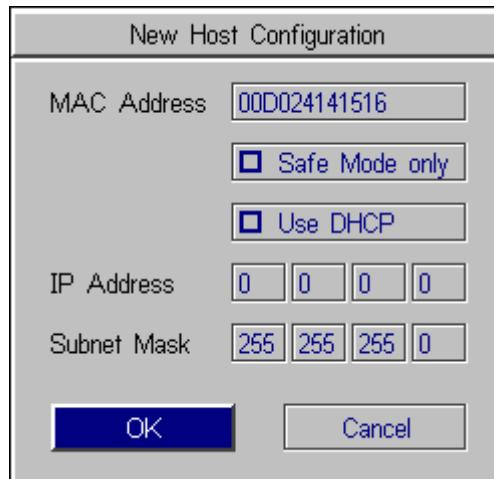

Figure C-3: New Host Configuration
6. Select <New> from the list to open the New Host Configuration dialog (Figure C-3).